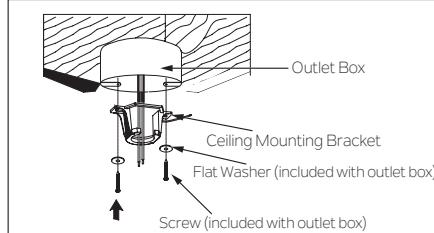

Fig. 5
Step 1. Before attaching fan to outlet box (not included), ensure the outlet box is securely fastened to at least two points to a structural ceiling member (a loose box will cause the fan to wobble). Pass the 120 volt supply wires from the ceiling outlet box through the center of the ceiling mounting bracket. Install mounting bracket to outlet box in ceiling using the screws and washers included with the outlet box. (**Fig. 5**)